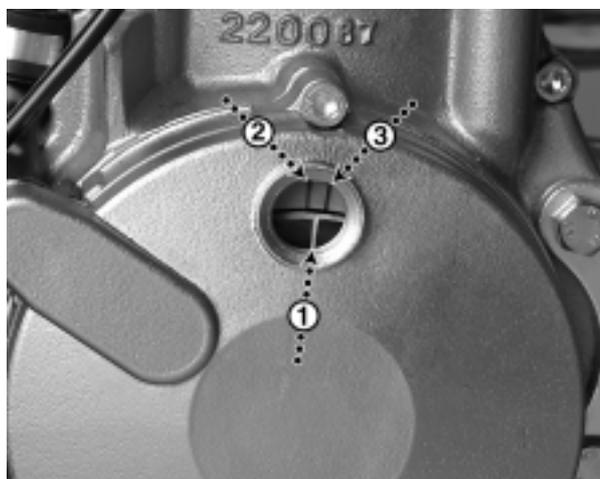

Fig. 7G
**400cc- & 501cc- kickstarter models** - the left mark on the flywheel (Fig. 7G/H-2) is aligned with the mark on the stator (Fig. 7G-1).
**600cc- and electrical starter models** - the right mark on the flywheel (Fig. 7G/H-3) is aligned with the mark on the stator (Fig. 7G-1).